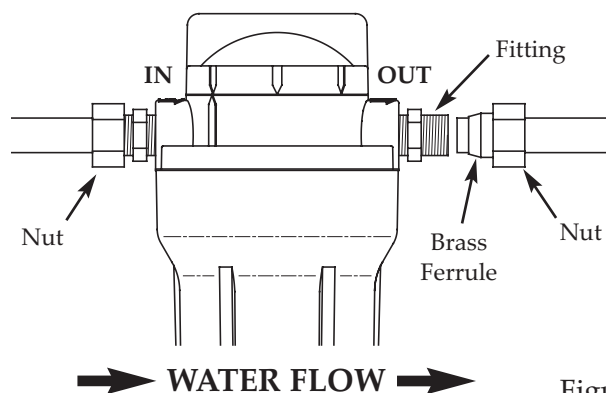

Figure 9
8. With the **IN** side of the water filter **toward incoming water**, spread the pipes apart and fit both pipe ends into the compression fittings. Move a ferrule and nut up to the fitting (See Figure 9). Then, turn on and tighten the nut. Hold the fitting with one wrench while tightening the nut with the other. Repeat on the other side.